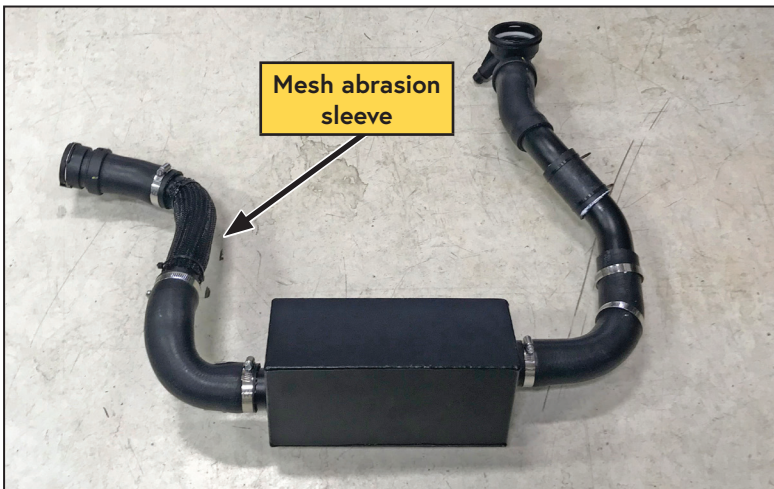

Figure 29 — Radiator side anti-abrasion sleeve
- Remove the anti-abrasion sleeve from the center section of the lower radiator hose and slide it over the radiator side coolant tube; securing it in place with cable ties (Figure 29).